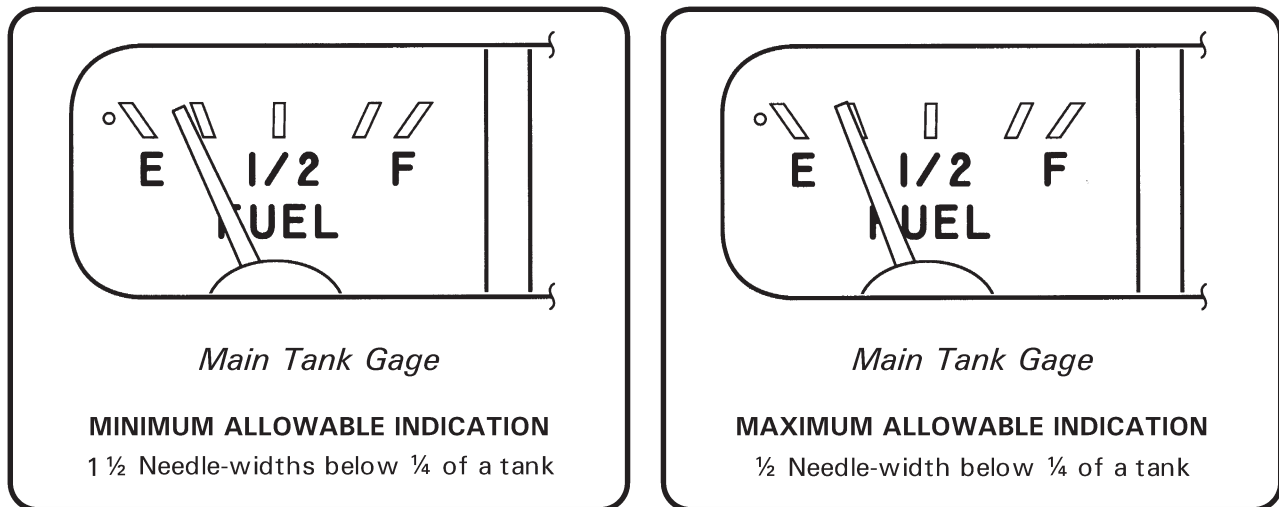

FIGURE 12-6 FUEL QUANTITY INDICATION CHECK
3. Turn battery switch on and read main tank fuel quantity gage. Verify main tank gage indicates one half to one and one half needle-widths below a quarter of a tank, as shown in Figure 12-6.